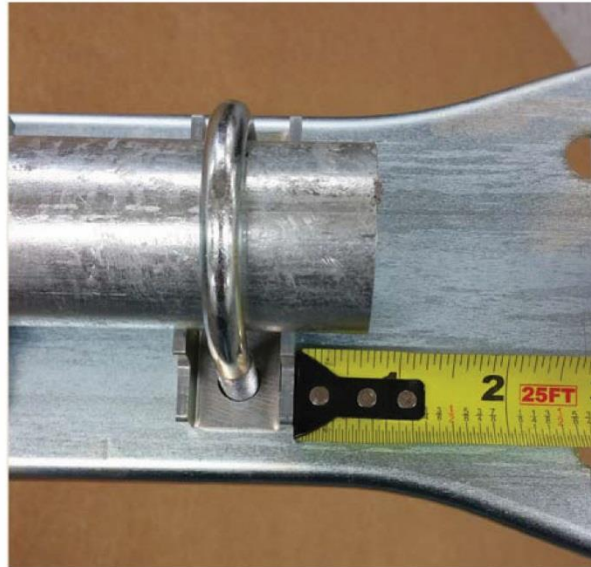

Figure 3
4. It is important to position the bracket so that Pipe Clamp Bracket is approximately 5/8" to the end of the pipe. Doing this will avoid collision of the cord grip on the fixture and the end of the pipe. See Figure 3.